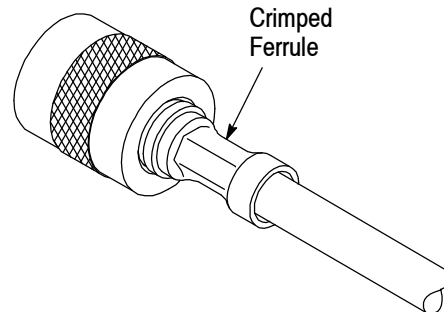

Figure 5
5. Insert center contact into plug body until it snaps into place. The cable braid must be positioned over the plug body support sleeve. See Figure 5, Detail A. Pull back gently on the cable to ensure that the contact is held in place by the internal locking feature.
6. Slide ferrule forward over cable braid and support sleeve until it is positioned against the shoulder of the plug body. See Figure 5, Detail B.
7. Crimp the ferrule using the recommended frame assembly fitted with appropriate die assembly. See Figure 5, Detail C.